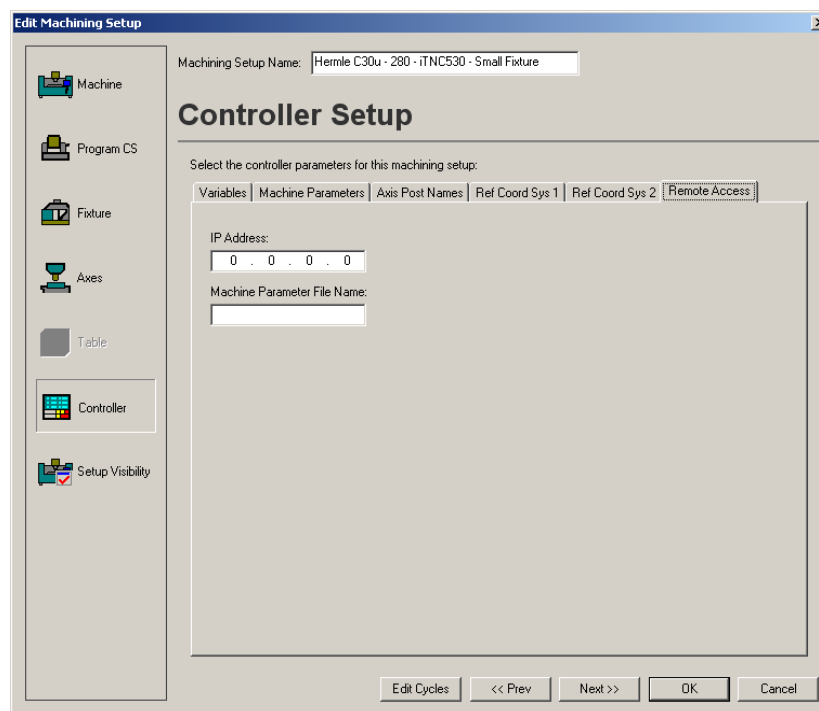

Figure 2: Machining Setup Editor
- 3) Click 'Edit' to open the Machining Setup Editor (figure 2)